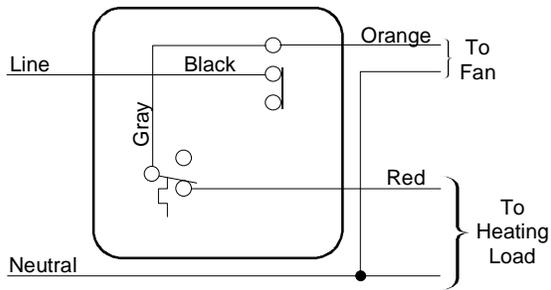

Figure 6: T46ADH Off-Auto Selector Switch with Continuous Fan (Heating Only)
5. Make the necessary wiring connections based on the required color codes in Table 1 and depending on which model is being used. See Figures 6 through 15 for wiring diagrams.